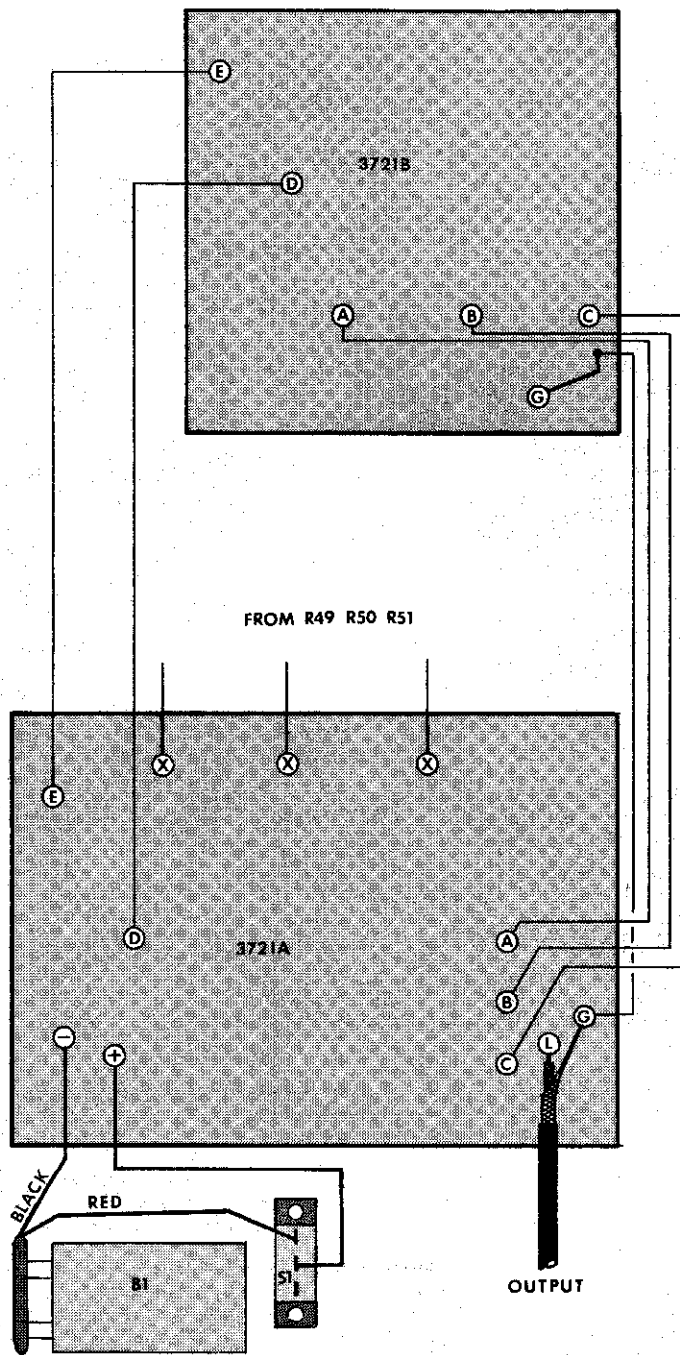

FIGURE 3
- ( ) Solder the remaining end of this wire to one of the outer lugs on power switch S1 as illustrated in figure 3.